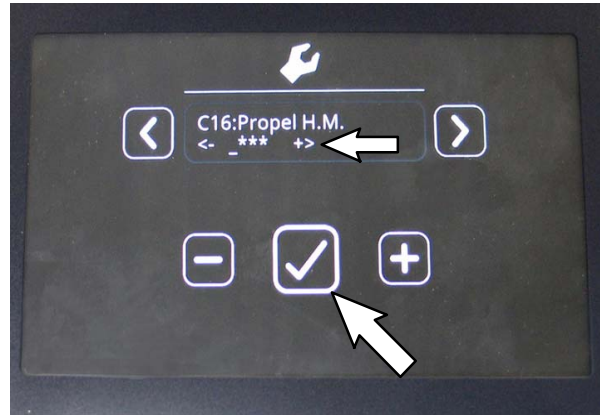

FIG. 27
22. Log in to the C16: Propel H.M. Screen (hour meter reset password is 0000): Use the minus (-) button to enter 0 (zero) at first asterisk. Use right arrow button to move to next asterisk and again use the minus (-) button to enter 0 (zero). Repeat for the remaining asterisks. Press the Check Mark button when finished. (Fig. 27)
23. Press the Check Mark button when finished entering 0 (zero) at the last asterisk. (Fig. 27)